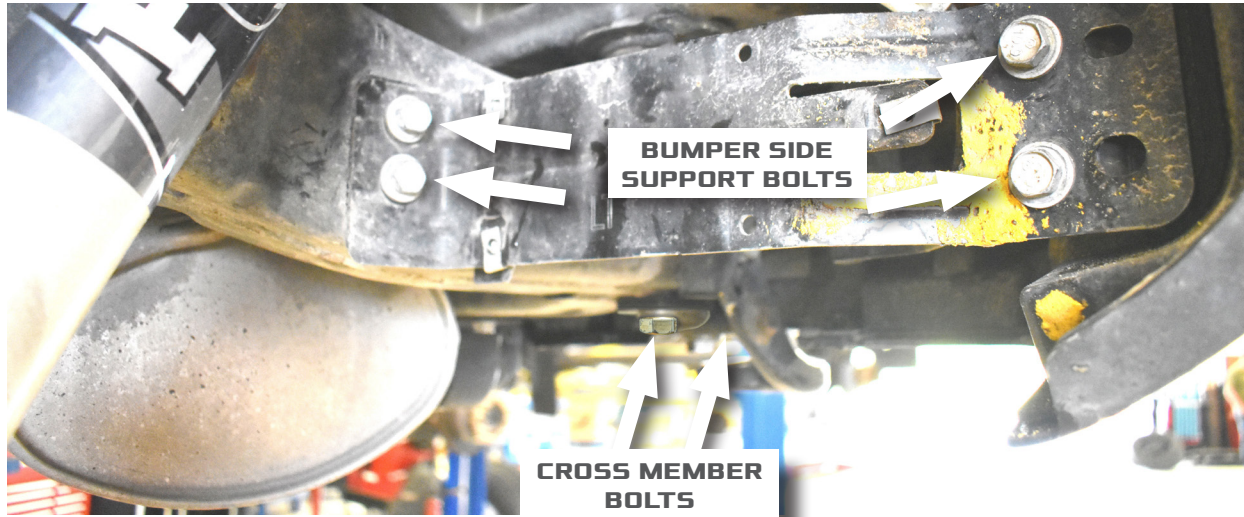

FIGURE 3
REMOVE (4) 16MM BOLTS FROM CROSSMEMBER AND REMOVE (4) 16MM BUMPER SIDE SUPPORT BOLTS SHOWN IN **FIGURE 3**.